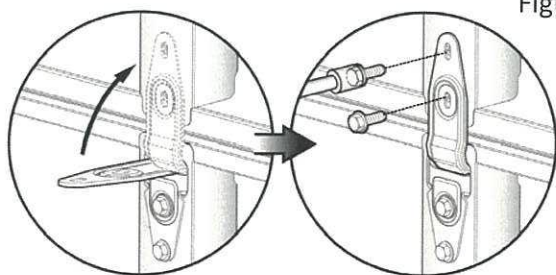

Figure 10
Once the section is in place, push up the upper leave(s) of the Center Hinge(s) and attach to the section above with (2) 1/4"x5/8" Universal Screws (Figure 10).